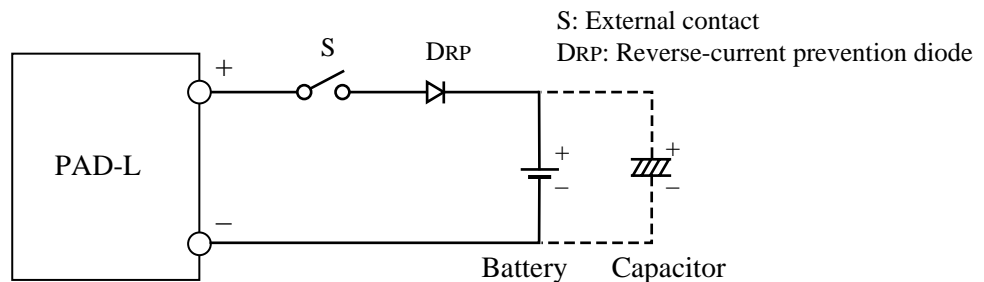

Fig. 4-19 Constant current charge circuit
In Fig. 4-19, use the unit VOLTAGE setting knob to set a charge-end voltage and the CURRENT setting knob to set a charge current. Constant current charging begins when the external contact (S) is closed, and the unit enters the constant voltage mode when the output voltage of the unit reaches the set charge end voltage, halting constant current charging.
- **In Fig. 4-19, note the setting of the charge-end voltage. A voltage applied across a battery or capacitor will be lower than the output voltage of the unit by a portion of the forward voltage (VF) of the reverse-current prevention diode (DRP).**
4. Connect a battery or capacitor across the output terminals as shown in Fig. 4-19.
**⚠ CAUTION** • When a charged battery is connected to the unit, if the POWER switch of the unit is OFF or the output voltage of the unit is lower than the charged battery voltage, a current of several hundred mA flows into the unit. If this current presents problems, connect a reverse-current prevention diode (DRP) to the circuit in series, as shown in Fig. 4-19.